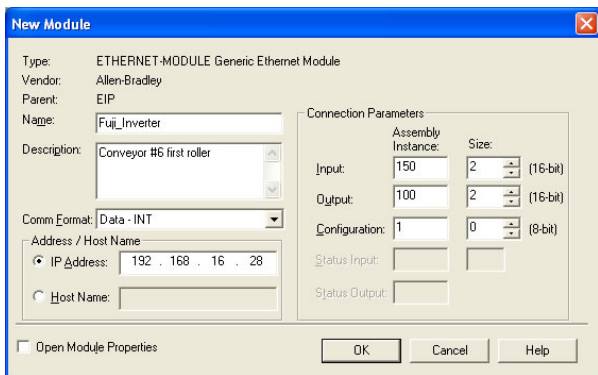

Figure 79: Interface Card Module Properties
- 4) The module properties dialog box will open (refer to Figure 79). Enter a Name and Description which will allow easy identification of the inverter on the network (the tags created in RSLogix 5000 will be derived from this Name). Because all inverter data is stored as 16-bit function code values, change the "Comm Format" selection to "Data-INT". Enter the IP address of the targeted interface card.